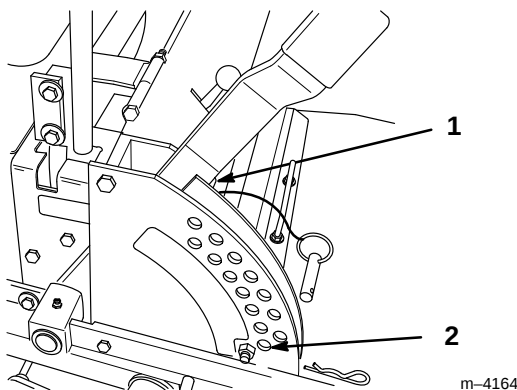

Figure 44
2. Check tire pressure of all four (4) tires. If needed, adjust to 13 psi (90 kPa)
4. Raise the deck to the transport position and take all force off of the two large deck lift springs by loosening nut in front of each spring (Fig. 44).
5. Place two 1-1/2" (38 mm) thick blocks under rear left and right lower edge of mower. Place one 2" (51 mm) block under front center lower edge of mower. Lower mower to the 1-1/2" (38 mm) height-of-cut position (Fig. 44).
1. Raise deck lift lever to the transport position, (Fig. 44).